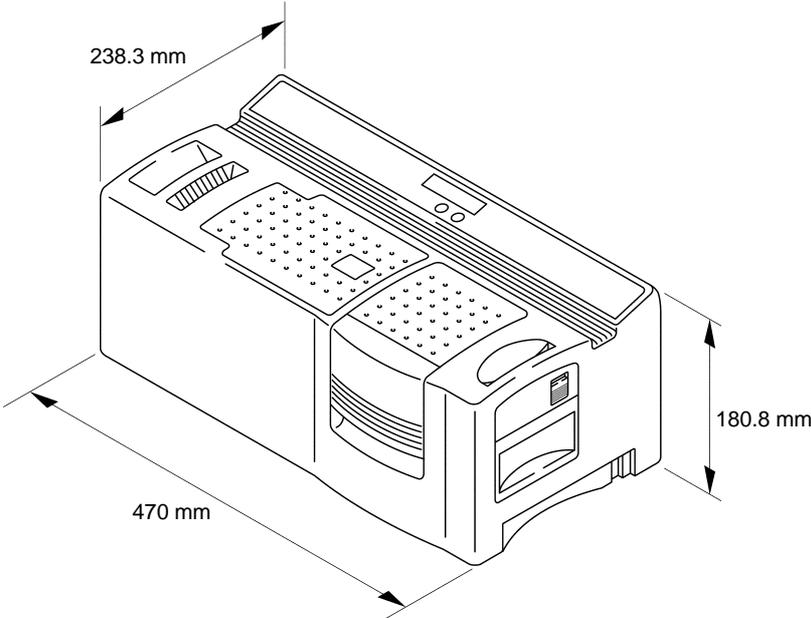

Fig. 1.1 External Dimensions
- (1) External view See Fig. 1.1.
- (2) Dimensions 470 mm (W) × 238.3 mm (D) × 180.8 mm (H)